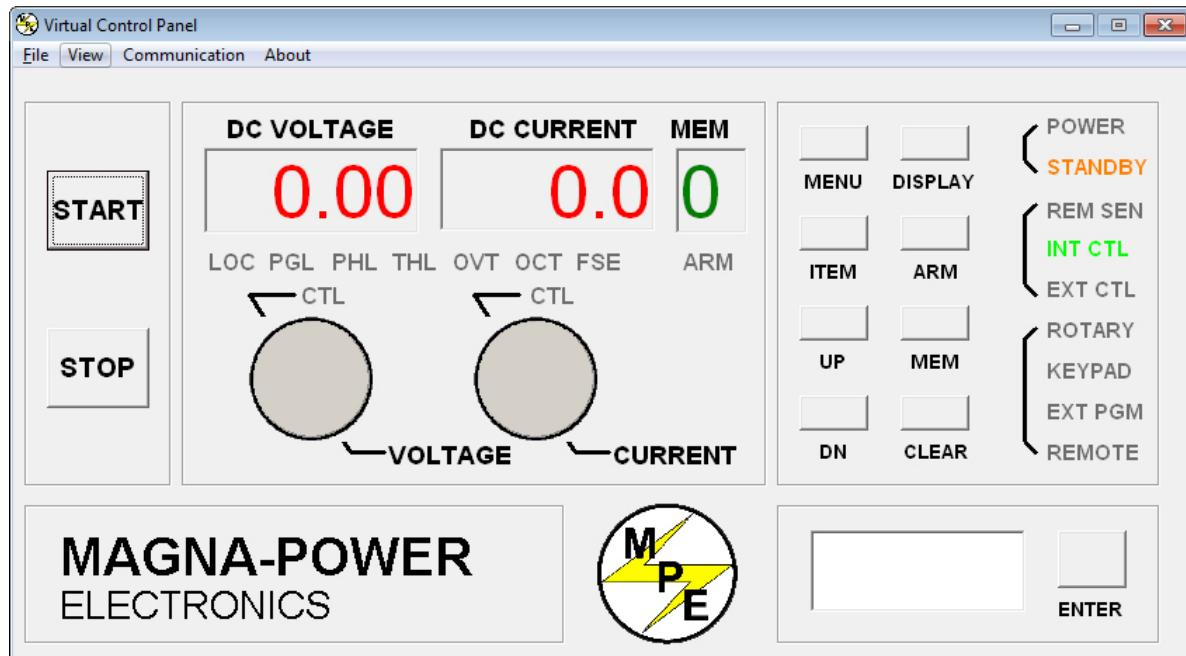

Figure 4.4. Virtual Control Panel
*Figure 4.4, “Virtual Control Panel”* illustrates the Virtual Control Panel for the D Version front panel models. Other displays are available for the SL/XR front panel and the A Version front panel. The Virtual Control Panel emulates front panel commands and provides the means to control the C Version front panel models.